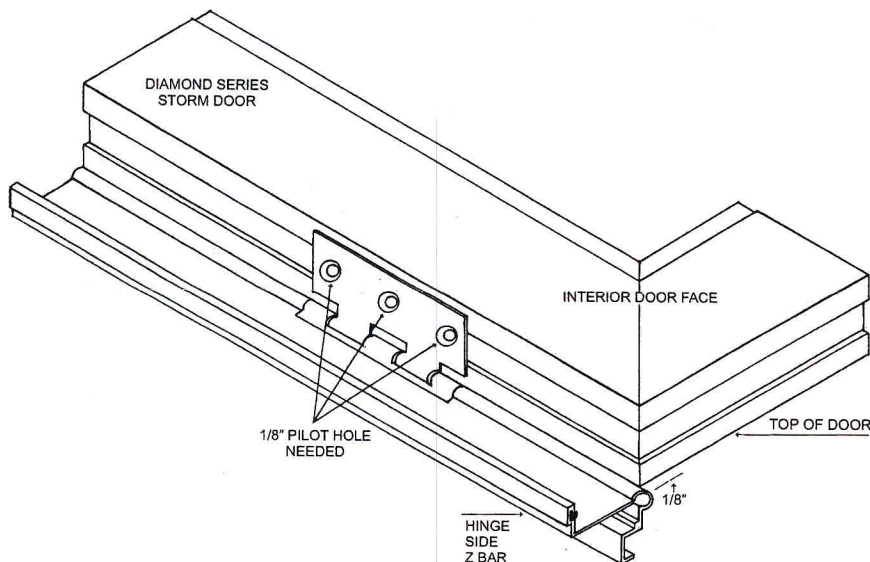

Figure 6
4. Position Hinge Side Z Bar 1/8" past the top of the door. Drill 1/8" pilot holes through hinge into door frame. Attach hinge with three #10 X 1/2 Screws. Repeat for each hinge. (Fig. 6)